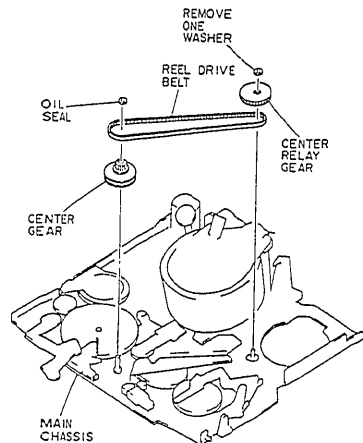

Fig. 2-56
- 1) Remove the oil seal of the center gear. (See Fig. 2-56)
- 2) Remove one (1) washer holding the center relay gear.